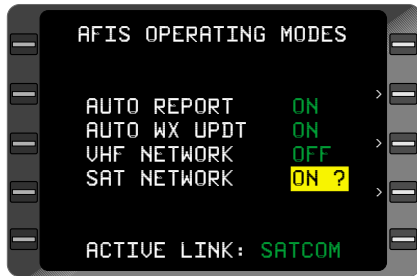

Figure 7-103
5. **BACK** Key - DEPRESS. **ON?** appears in the cursor. (Figure 7-103)